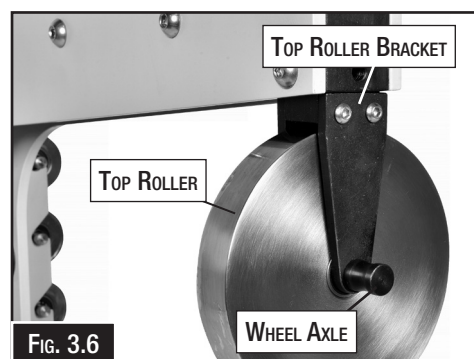

Fig. 3.6
4. Place the large upper wheel in upper wheel bracket, then install the wheel axle. (Fig. 3.6)
5. Install the spring clip in the upper wheel axle to secure upper wheel in the frame. (Fig. 3.6)